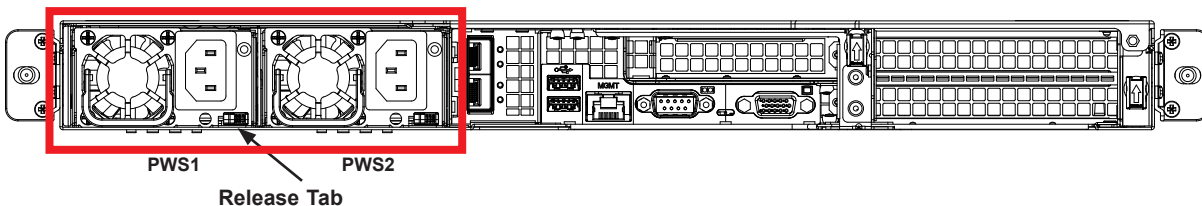

Figure 3-14. Replacing the Power Supply
1. Remove the left WIO riser card as described in Figure 3-14.